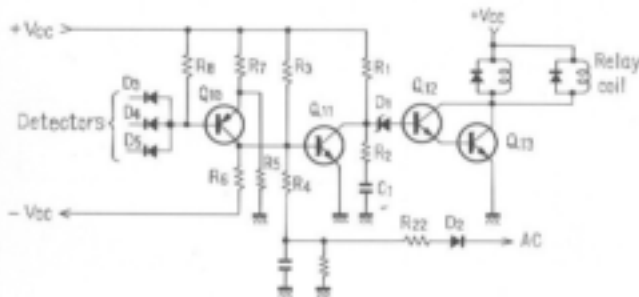

Fig. 5 Relay drive circuit
1. Relay Driver Circuit (Fig. 5)